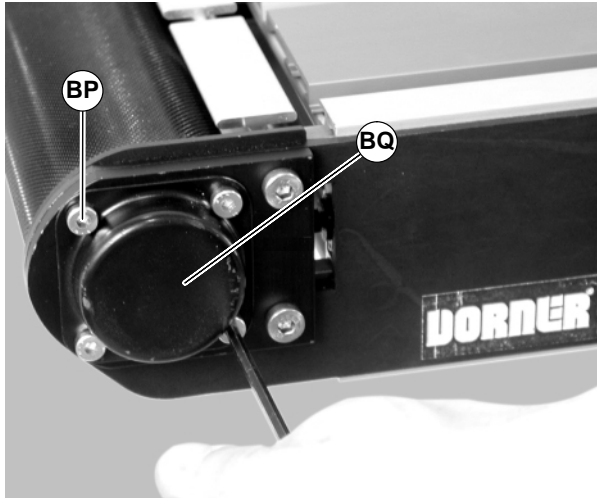

Figure 48
4. Remove four shaft cover screws (BP of Figure 48). Remove the shaft cover (BQ).